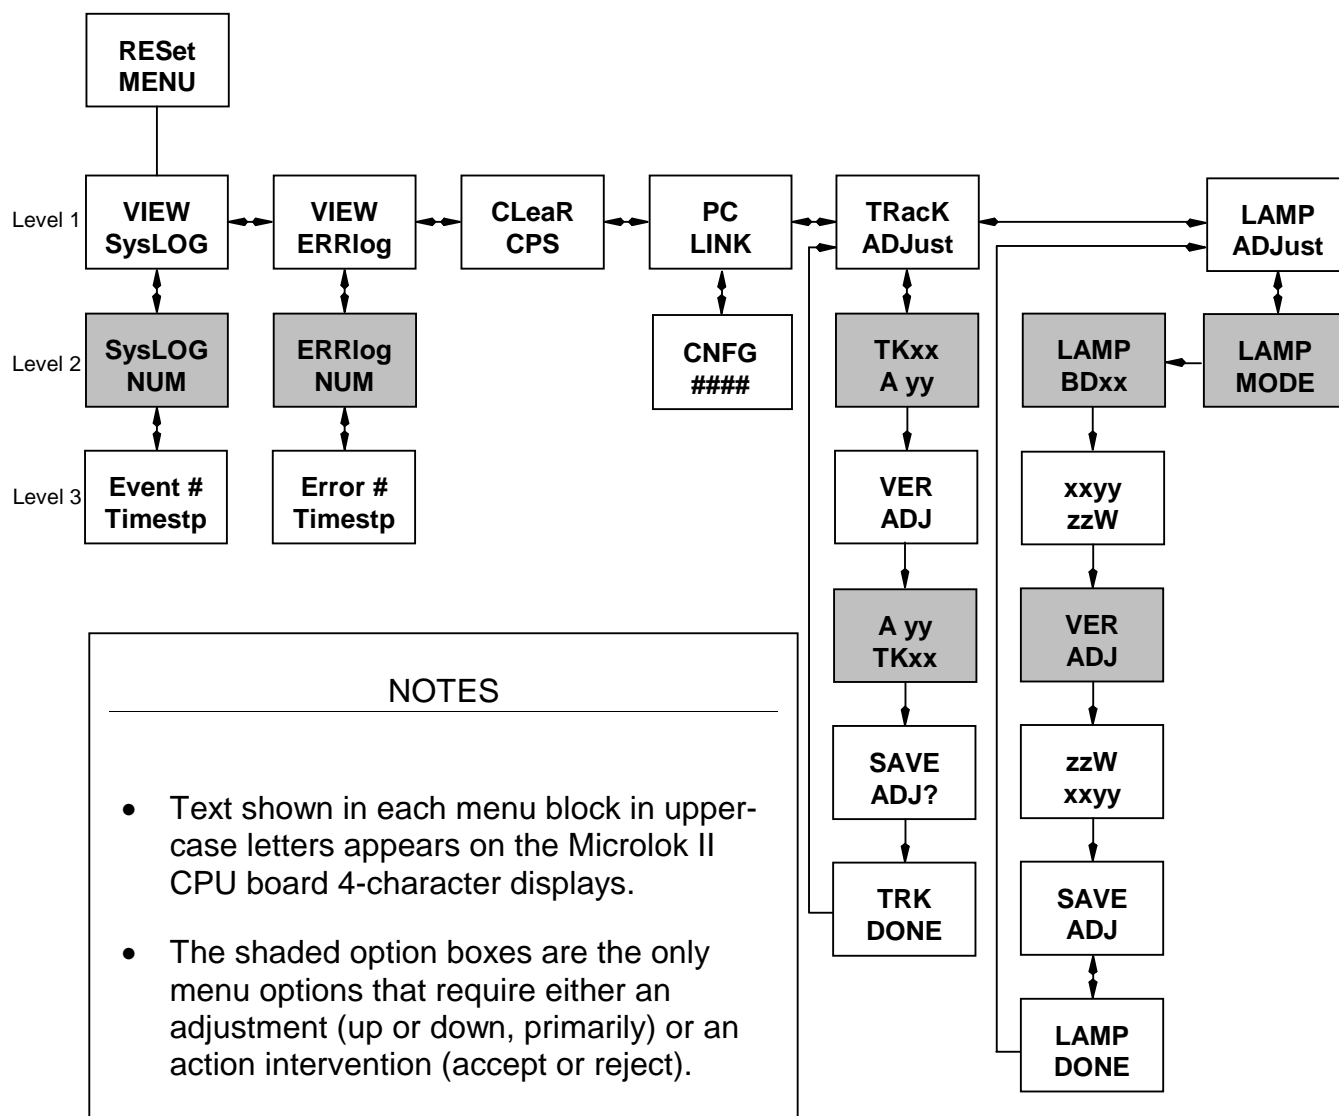

Figure 3-2. Microlok II CPU Board Reset Menu
The reset and on-line menus are shown in Figures 3-2 and 3-3 respectively. As seen in these figures, the reset and on-line menus are similar in structure. Each menu has a main display message that is the top-most level of the menu. Below the main display message, each menu has a number of level 1 options. Each level 1 option provides access to other related options/functions on subsequent levels in the menu.
- The ADJUST UP-DOWN toggle switch is used to increment or decrement any adjustable parameter available in the menus. The shaded option boxes shown in Figures 3-2 and 3-3 are the only areas within each menu where the ADJUST UP-DOWN switch is functional. The shaded blocks always require either an adjust or an action intervention.
The two 4-character displays at the top of the CPU board front panel show you where you are in the menu structure by displaying or scrolling alphanumeric phrases. The display text for each option box is shown in Figures 3-2 and 3-3. The text shown in capital letters in each block is what you will see on the 4-character displays. If two lines of text are shown in a block, the upper line is shown on the upper 4-character display and the lower line is shown on the lower 4-character display. If only one line of text is shown in a block, the text is shown on the upper 4-character display; the lower display will be blank.
The reset menu (Figure 3-2) is used to reset the Microlok II system following a conditional power supply trip. This menu provides access to the system event and error logs and enables manual configuration of selected track circuit and signal lamp parameters. It is used primarily to troubleshoot when the system will not come out of reset.